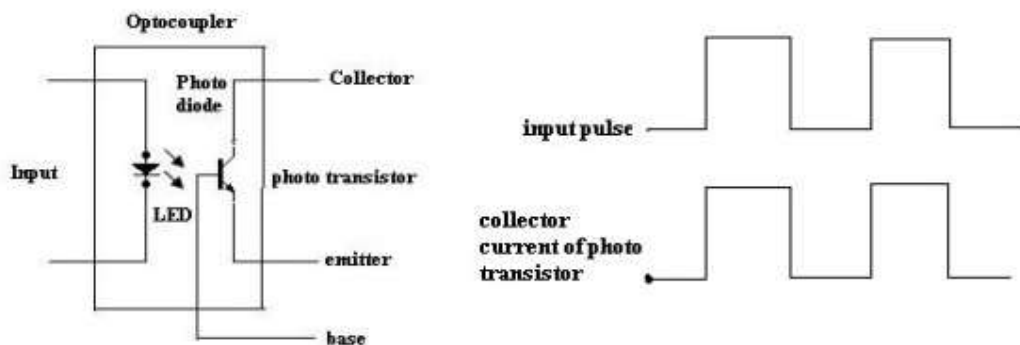

Figure 5.14.2. Schematic of LED- Phototransistor opto coupler and its waveforms
- The LED phototransistor opto coupler and its waveforms shown in figure 5.14.2. An infrared LED acts as a light source and the phototransistor acts as a photo detector.